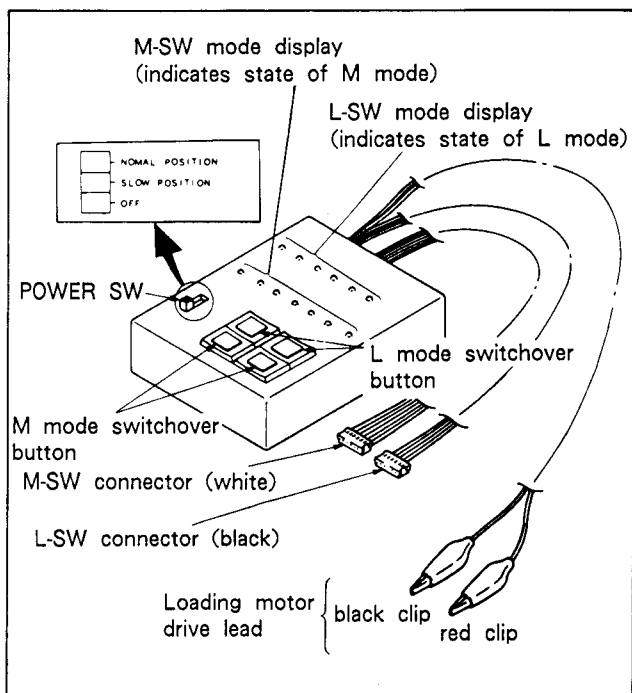

Fig. 7-2.
- 1) Open the MA-25 board ❶ according to Section 2. DISASSEMBLY 2-17.
- 3) Insert the M-SW connector (6P connector, 6 harness, white) ❷ into the MS-4 board on the set.
- 4) Insert the L-SW connector (6P connector, 4 harness, black) ❸ into the LS-9 board on the set.
- 5) Connect the red clip of the loading motor drive lead ❹ to the red lead wire side of the loading motor and the black clip to the gray lead wire side. (See Figs. 7-2. and 7-3.)